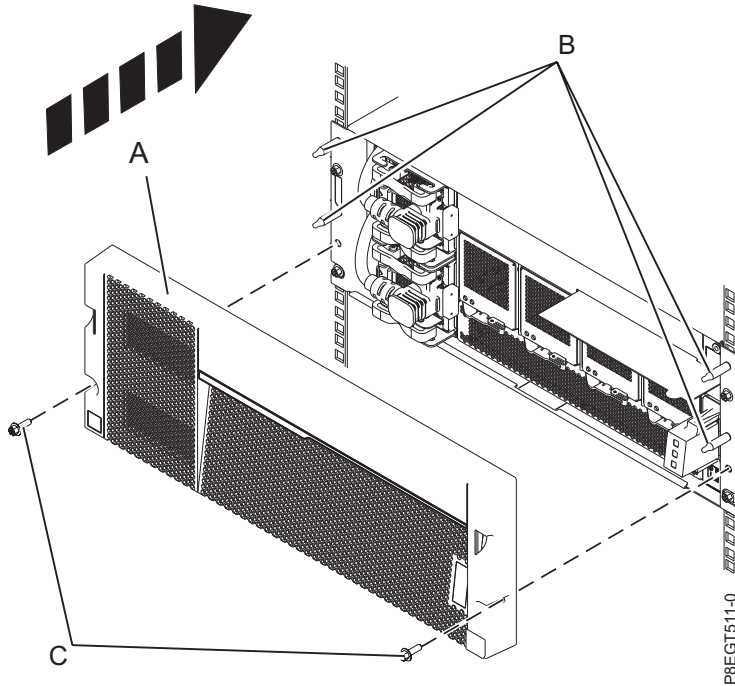

Figure 8. Replacing the front cover
4. Replace the front cover (A) by pressing the cover onto the locating pins (B). If the cover had screws (C) when the cover was removed, secure the cover with the screws. See Figure 8 on page 7.